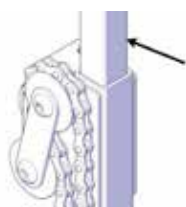

FIGURE 74: SLIDING PARTS GREASING
- Spray grease on all the sliding parts and mechanical components of all four jacks, see Fig. 74